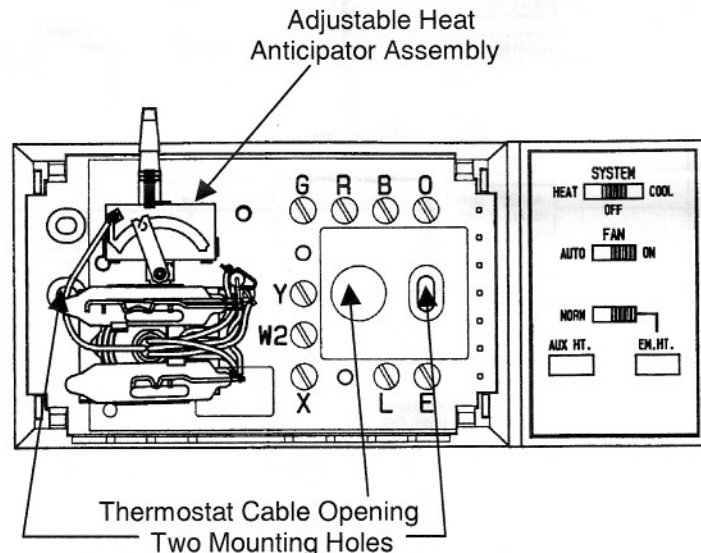

Fig. 2 Thermostat with Cover Removed
- Run low voltage thermostat wires to the location and pull about 4" through the wall opening and lead through large opening in thermostat indicated in Figure 2.
- Fasten thermostat on wall or a horizontal outlet box using two elongated holes as indicated in Figure 2.
Only the second stage heat anticipator can be adjusted. The pointer of the adjustable anticipator (See Fig. 2) should be set to the circuit steady state current draw. If a cycle rate adjustment is desired, small movement of the pointer to the left will slow it; to the right will increase it. The remaining heating and cooling anticipators are fixed type and are not adjustable.